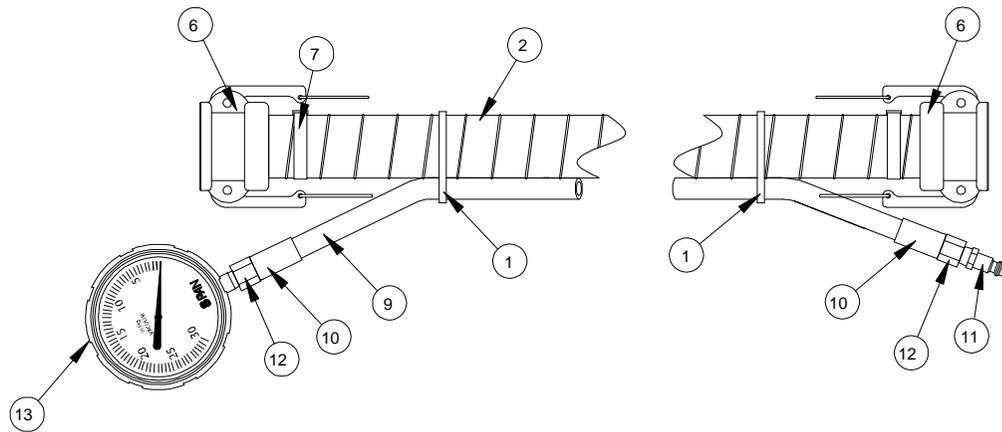

Fig. 3
2. Adjust the cross brace (item 19) so the sealing element will seal against the manhole ring as shown in Fig 3.
3. This adjustment is done by moving the pin (item 17) and flat washer (item 18) on the support rod (item 16). The Manhole Tester must be in this position to create a proper seal.